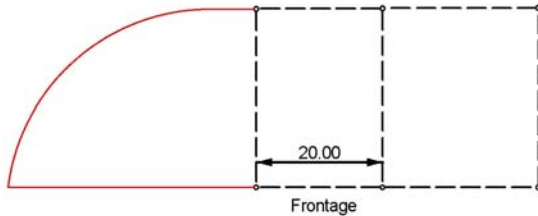

Figure 13-94. Frontage Set and Bearing Defined
2. Click on the boundary line representing the frontage (Figure 13-94 on page 13-81), and then press **Enter** or select **Create** from the right-click shortcut menu.